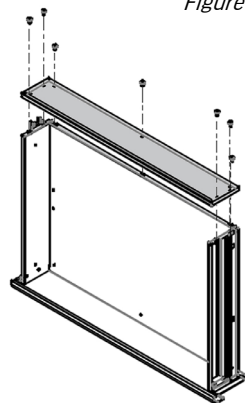

Figure 10
18. Attach the back panel (#14-5) to the side and bottom panels with M4 x 10 screws (Fig. 10).